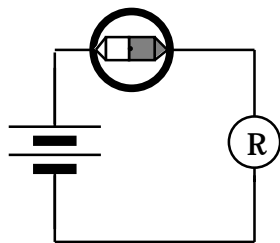

Figure 3.8a
Before you set up the circuits below (Figure 3.8a, b, c) – **predict** what you will observe.
3. Draw arrowtails and starbursts on Figures 3.8a,b,c.